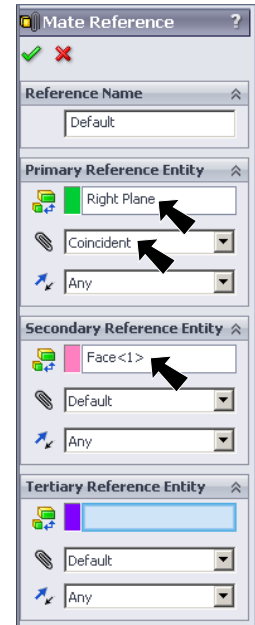

Fig. 7
Step 3. In the Mate Reference Manager: under **Primary Reference Entity**, **Fig. 7**